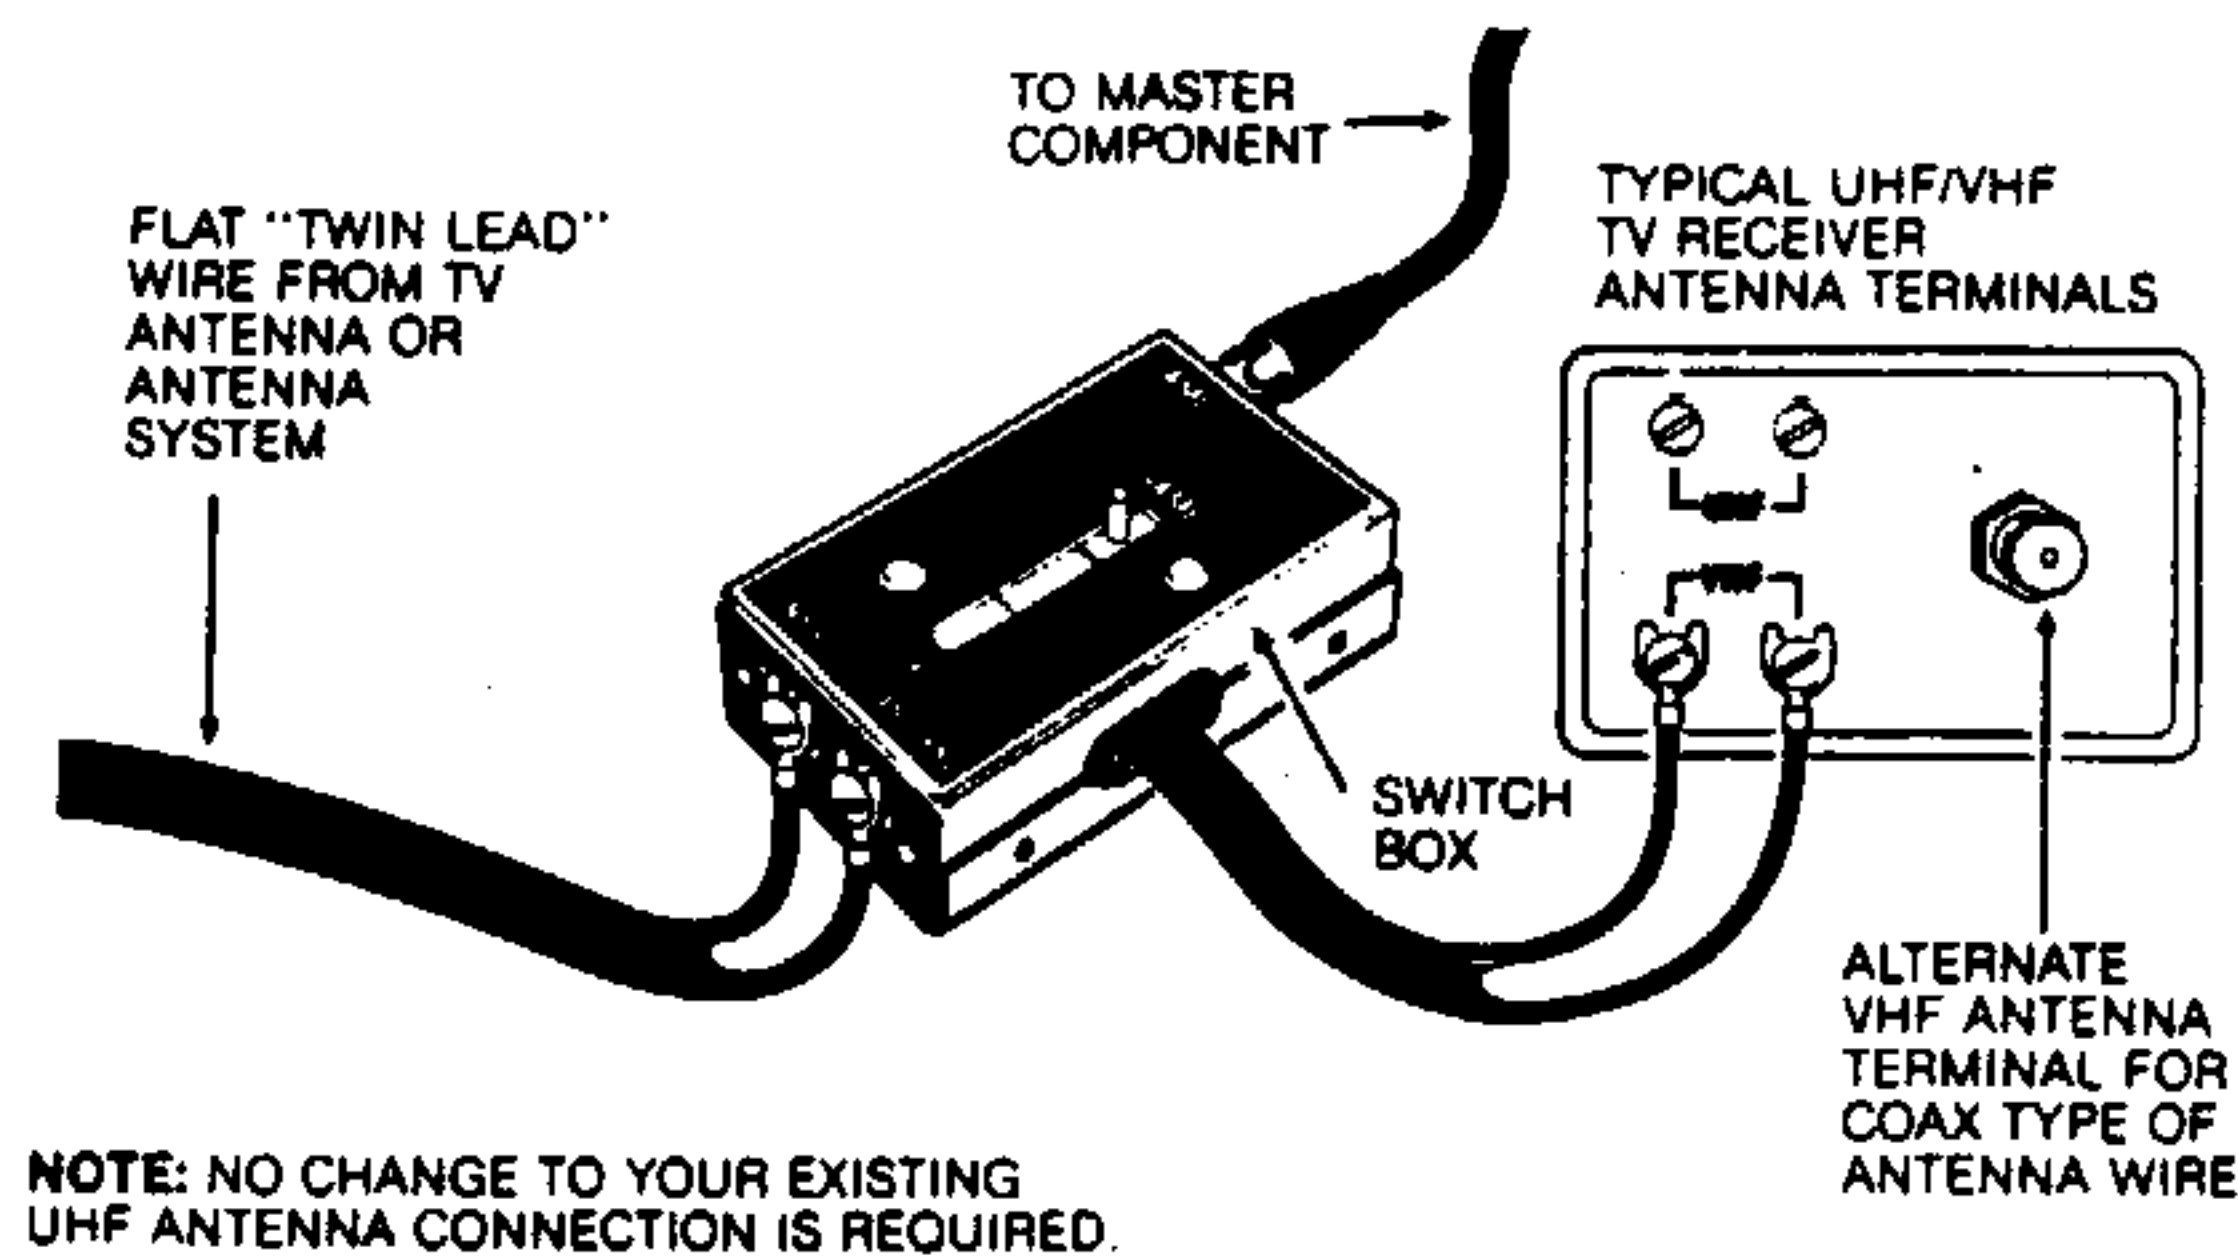
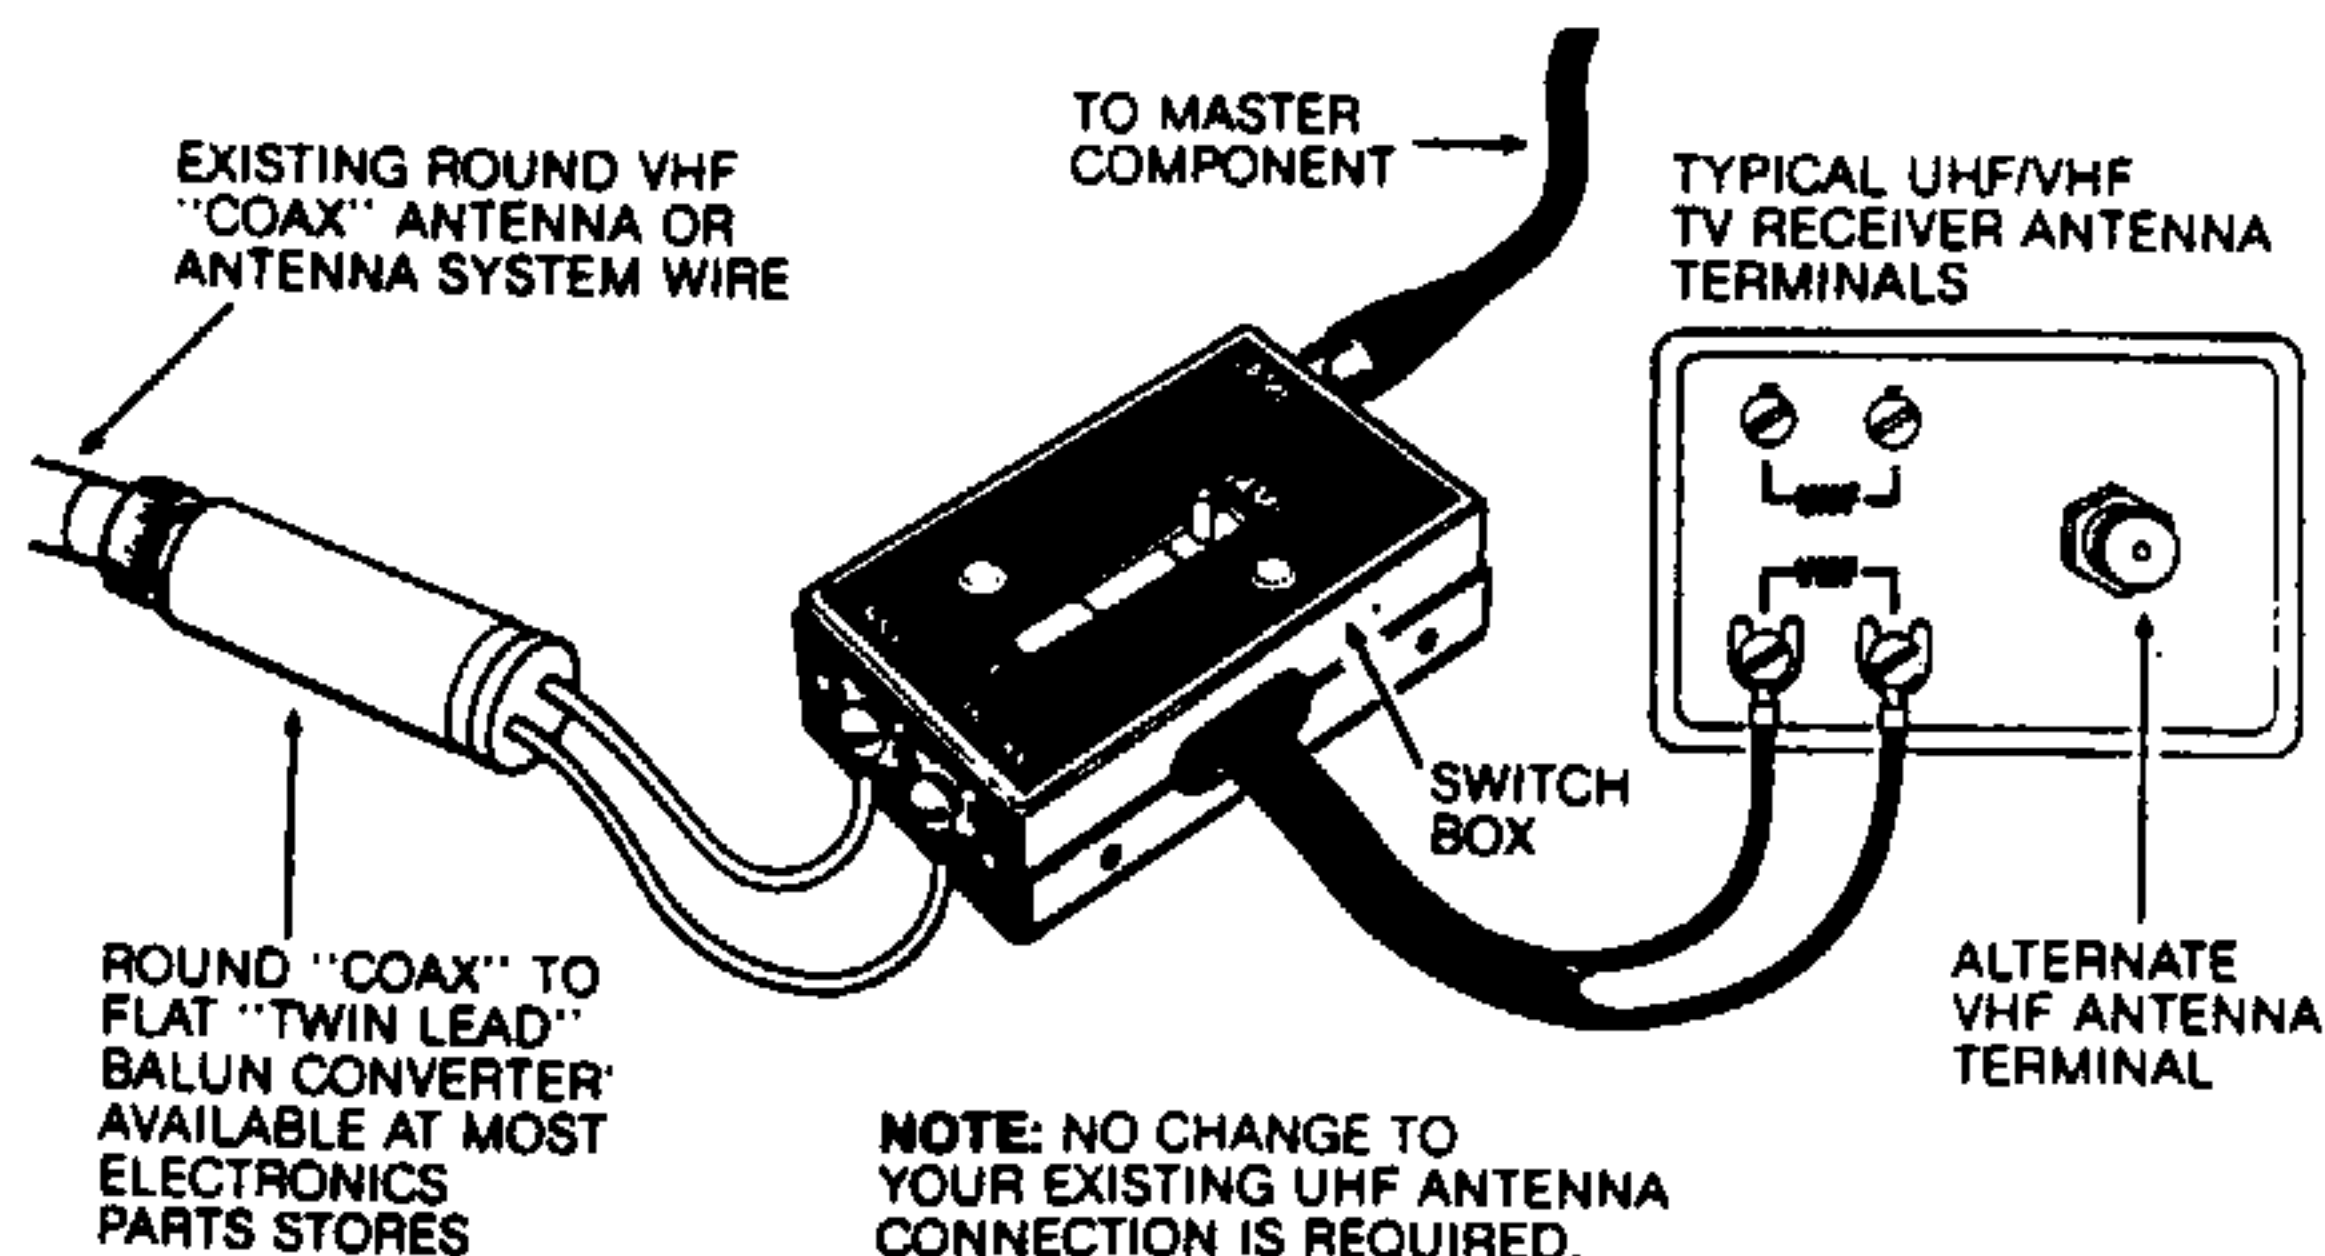

Figure 1
Figure 2
1. Connect the twin lead from the antenna switchbox to the VHF antenna input of the television receiver. Figure 1 illustrates the proper connection when twin lead is used from antenna system; Figure 2 illustrates the proper connection when coaxial cable is used. If the TV receiver has only 75 ohm coaxial input, then a 300 to 75 ohm adaptor must be used.